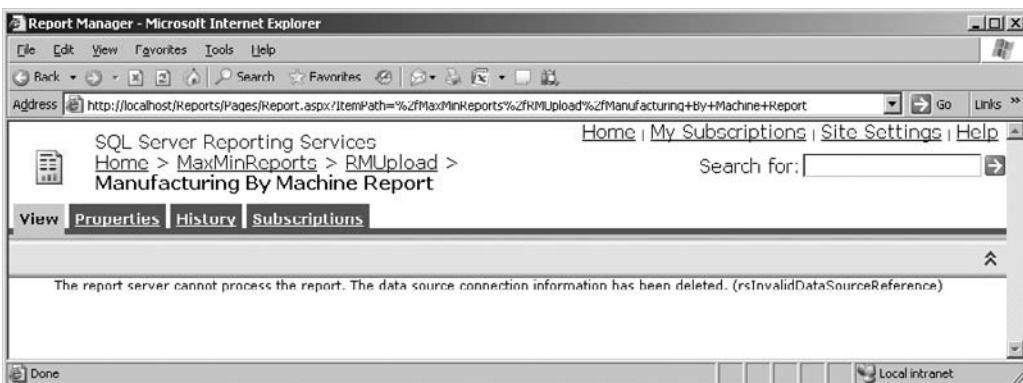

Figure 17-4 The Reporting Services Error page
12. Click the Manufacturing By Machine Report to execute it. You see an error similar to the one in Figure 17-4. You received this because, unlike the deployment from the Report Designer, the upload in Report Manager did not bring the shared data source along with the report.